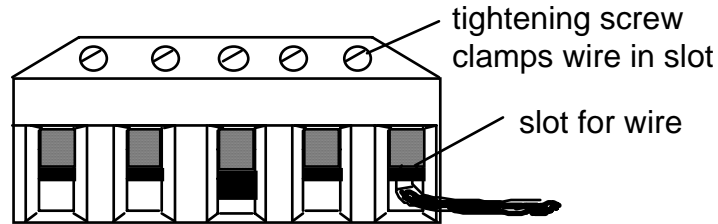

Figure 2-4. Inserting wires into connector
8. Connect wires to the L-shaped terminal block as shown in Figure 2-3. For 115 Vac, connect black wire to HI slot and white wire to NEU. (For 230 Vac connect black wire to HI slot and red wire to NEU). To connect a wire, find the correct slot and loosen the screw over that slot by turning it counterclockwise (see Figure 2-4). Strip the correct wire for this slot 1/4" (6.4 mm) from end. Insert bare wire into slot 90% of the way. Tighten the screw. The metal tooth inside the slot will clamp down on the bare wire for a tight connection. Make sure the metal tooth is clamped down on the bare part of the wire, not on the insulation. If it is on the insulation, you will have a bad connection. Connect both wires and double-check connections when done.